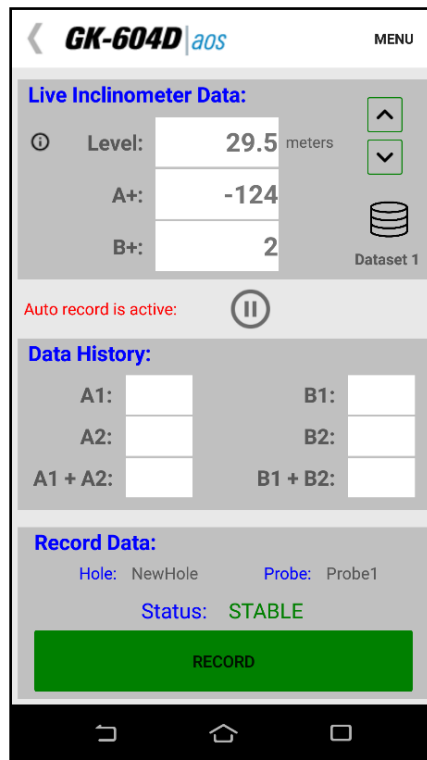

Figure 61 - Auto Record Active
To activate the “Auto Record” feature, tap on the  icon. The “Play” icon to the right of the red message status text will be replaced with a “Pause” icon and the red text status message will change to “Auto record mode is active”. If the readings are stable, the first reading will automatically be recorded (Figure 61).
- 3) Tap on the  icon to activate the “Auto Record” feature. The red status text message will change to “Auto record is active” and the “Play” icon will change to the “Pause” icon. If the readings are stable, the initial A & B readings will be taken and a “beep” sound should be heard, confirming that the readings have been stored (see Figure 61). If no beep is heard, tap the “volume” control at the top of the screen and adjust the volume.